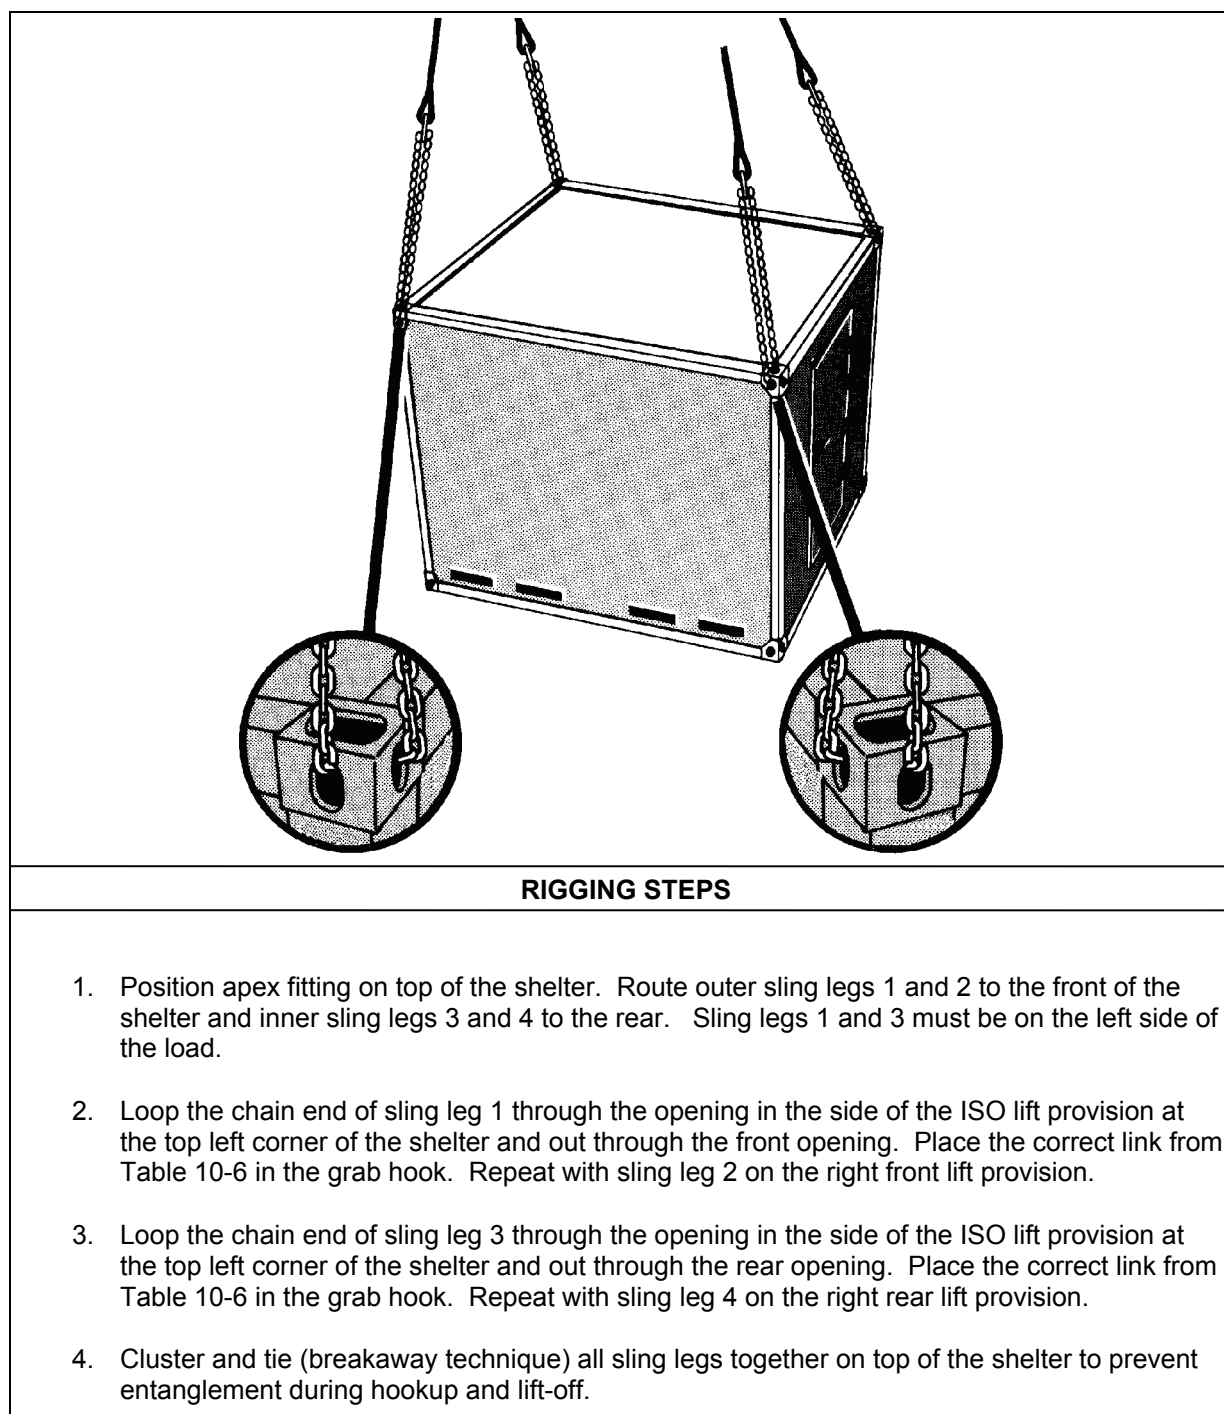

Figure 10-6. 8- x 8- x 10-Foot Shelter Systems
- **Rigging.** Rig the load according to the steps in Figure 10-6.